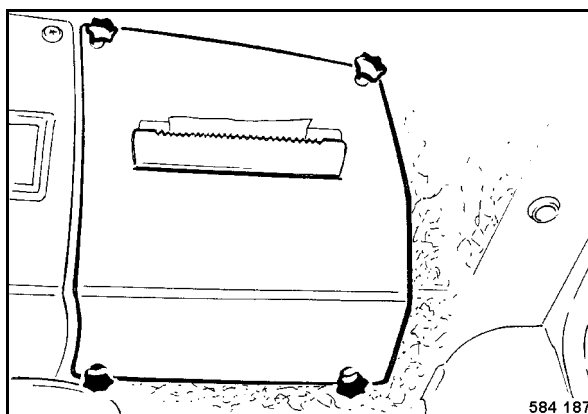

Fig. 102
- Unscrew the star handles (Fig. 102) and remove the cover.